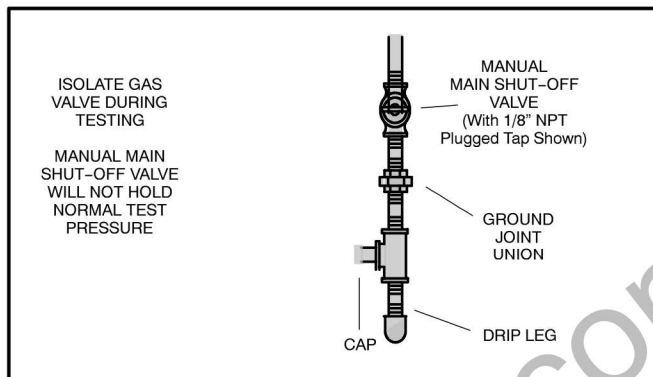

FIGURE 20
- 5 – In some localities, codes may require installation of a manual shut-off valve and union (furnished by installer) external to the unit. Union must be of the ground joint type. See figure 20.
NOTE – Installer must provide a 1/8" N.P.T. plugged tap in the field piping upstream of the gas supply connection to the unit. Tap must be accessible for test gauge connection. See figure 20.
When testing pressure of gas lines, gas valve must be disconnected and isolated. See figure 20. Gas valves can be damaged if subjected to more than 1/2 psi (3.48 kPa).